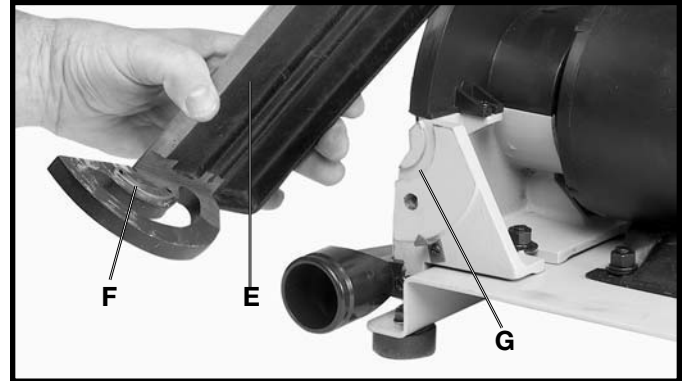

Fig. 14
3. Position the disc table (E) Fig. 14, on the disc base casting, making sure the key (F) on the table bracket is engaged with the keyway (G) on the base casting.